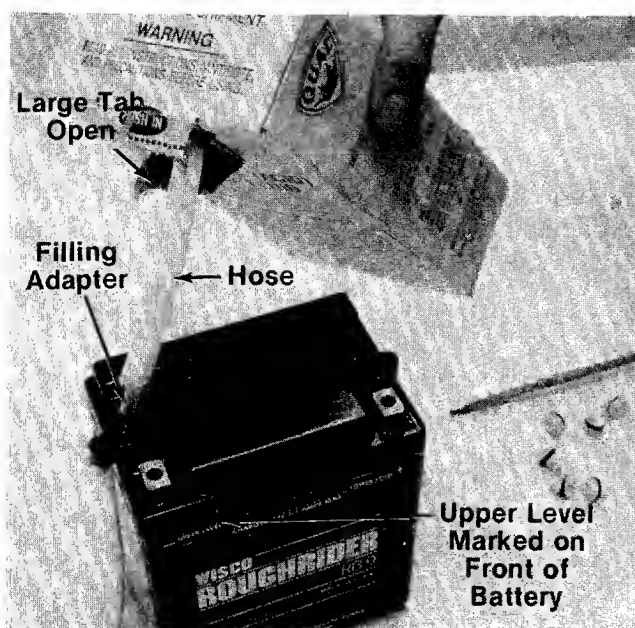

FIGURE 9.
6. Pull out hose from package and hold upright. Squeeze hose forcing all acid back into package. Cut off tip of hose and insert filling adapter. See figure 9.
7. Fill each cell to upper level marked on front of battery. Replace fill caps on battery. See figure 9.